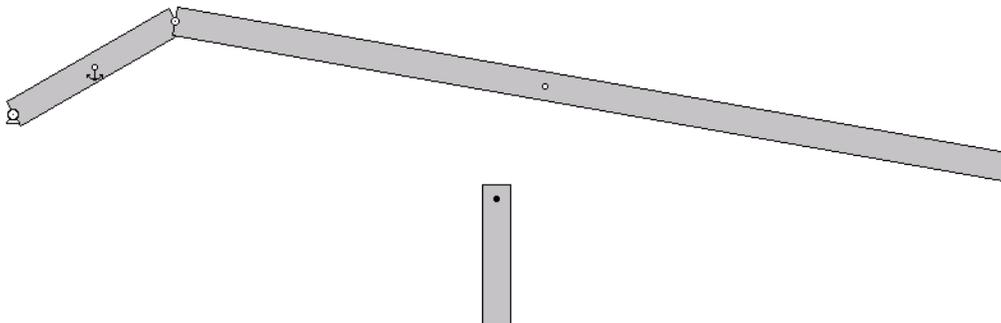

Figure 5
7. Draw another rectangle in the vicinity of link BD similar to Figure 5, and place a point on this link similar to the point on the figure below.